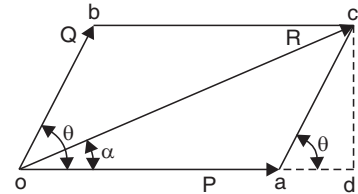

Fig. 2.14
Refer Fig. 2.14. Let two forces  $P$  and  $Q$  acting simultaneously on a particle be represented in magnitude and direction by the adjacent sides  $oa$  and  $ob$  of a parallelogram  $oacb$  drawn from a point  $o$ , their resultant  $R$  will be represented in magnitude and direction by the diagonal  $oc$  of the parallelogram.
**Analytical method.** As shown in Fig. 2.14, in the parallelogram  $oacb$ , from  $c$  drop a perpendicular  $cd$  to  $oa$  at  $d$  when produced. Now from the geometry of the figure.
**Sol.** Refer to Fig. 2.14,